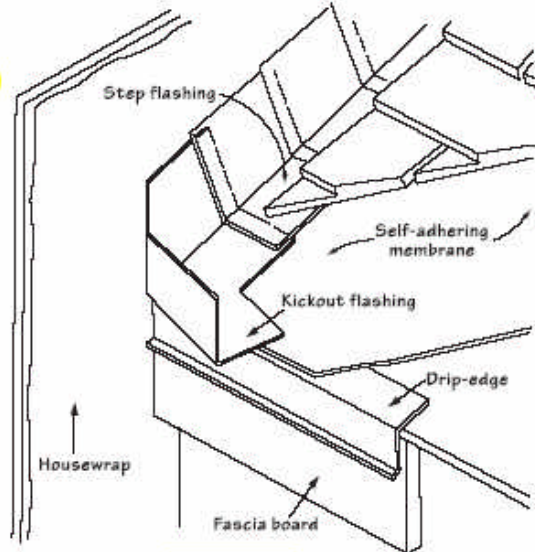

Figure 43.
- As an alternative to the diverter, create a "kickout" from metal flashing, as shown in Fig. 43.
**NOTE:** "Kick-out flashing" (Fig. 43) is an additional flashing strip that extends beyond the edge of the fascia that is required in some cold-climate localities.